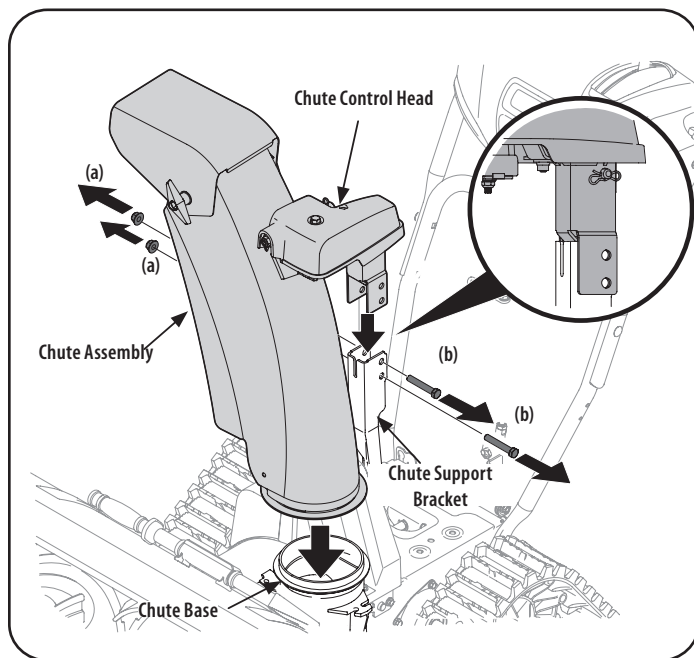

Figure 5
6. Remove lock nuts (a) and hex screws (b) from chute support bracket (this will require two wrenches). See Figure 5.
7. Place chute assembly onto chute base and chute control head onto chute support bracket. See Figure 5.